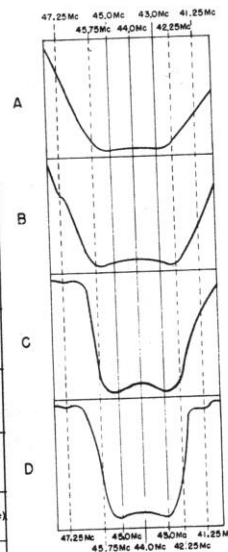

FIG. 5 - RESPONSE CURVES
1. Connect the high side of the signal generator to the video test terminal (point "B" on Fig. 5) through a .001 mfd mica capacitor, and ground the low side to the chassis.
3. Connect the common lead from the VTVM to the chassis and connect the R-F probe from the VTVM to the cathode of the CRT. This point is shown as point "C" on Fig. 5. Note that this point is above ground potential and, therefore, the R-F probe must contain a blocking capacitor.
Couple the marker generator output to the sweep generator output. In the steps that follow, use the marker to check the response curve at the frequencies indicated on Fig. 5.